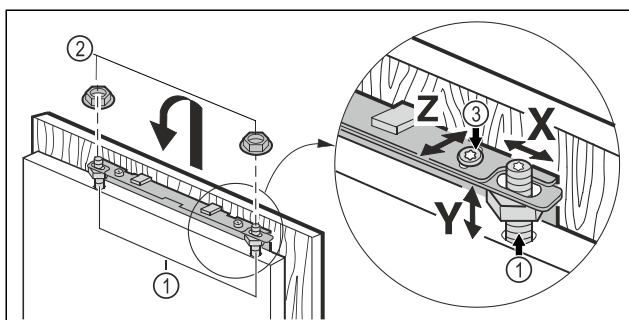

Fig. 41
- ▶ Hook the unit door onto the adjustment bolts *Fig. 41 (1)* and screw the lock nuts *Fig. 41 (2)* loosely onto the adjustment bolts.
- ▶ Align the unit door in height **Y** and in the lateral inclination: Adjust the adjustment bolt *Fig. 41 (1)* with a screwdriver.
- ▶ Tighten the lock nuts *Fig. 41 (3)*.